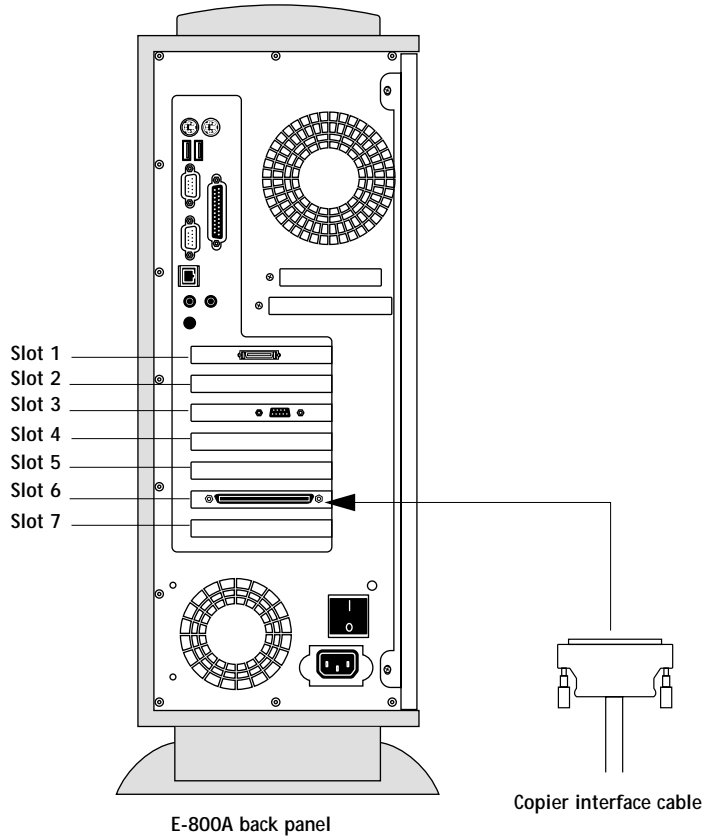

FIGURE 3-2 Copier interface cable connection
3. Connect the other end of the cable to the E-800A copier interface connector (see Figure 3-2).